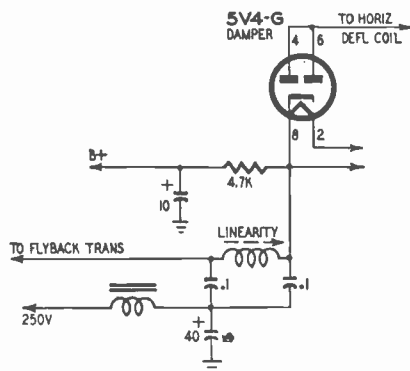

Fig. 2-N. Damper tube and horizontal-linearity circuit.
**SERVICE:** Probably caused by defective component in horizontal-output or HV section. Check tubes. Test on tubes should be aimed at slow warmup. Substitution is preferred to see if condition is corrected thereby. Check the cathode of the damper tube or at each end of horizontal-linearity coil. See Fig. 2-N. There may be an intermittent condition in the high-voltage transformer. Be sure socket of HV rectifier has good contact with tube pins, and that there are no loose connections or poorly soldered joints in the horizontal-sweep system.